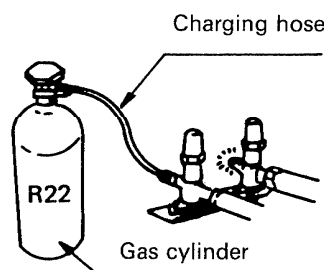

Fig. 10.
- Connect refrigerant charging cylinder to narrow tube service valve, and open the valve of the charging cylinder. Fig. 10